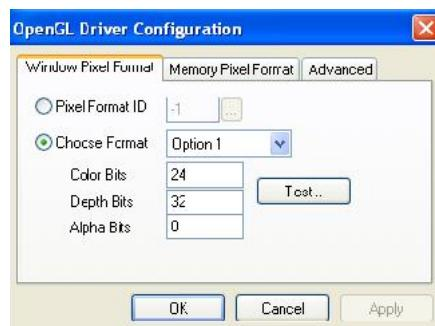

Figure 5-95: *OpenGL Driver Configuration* dialog box
4. In the OpenGL Driver Configuration dialog box (figure 5-95), select **PixelFormat ID** and enter this number.